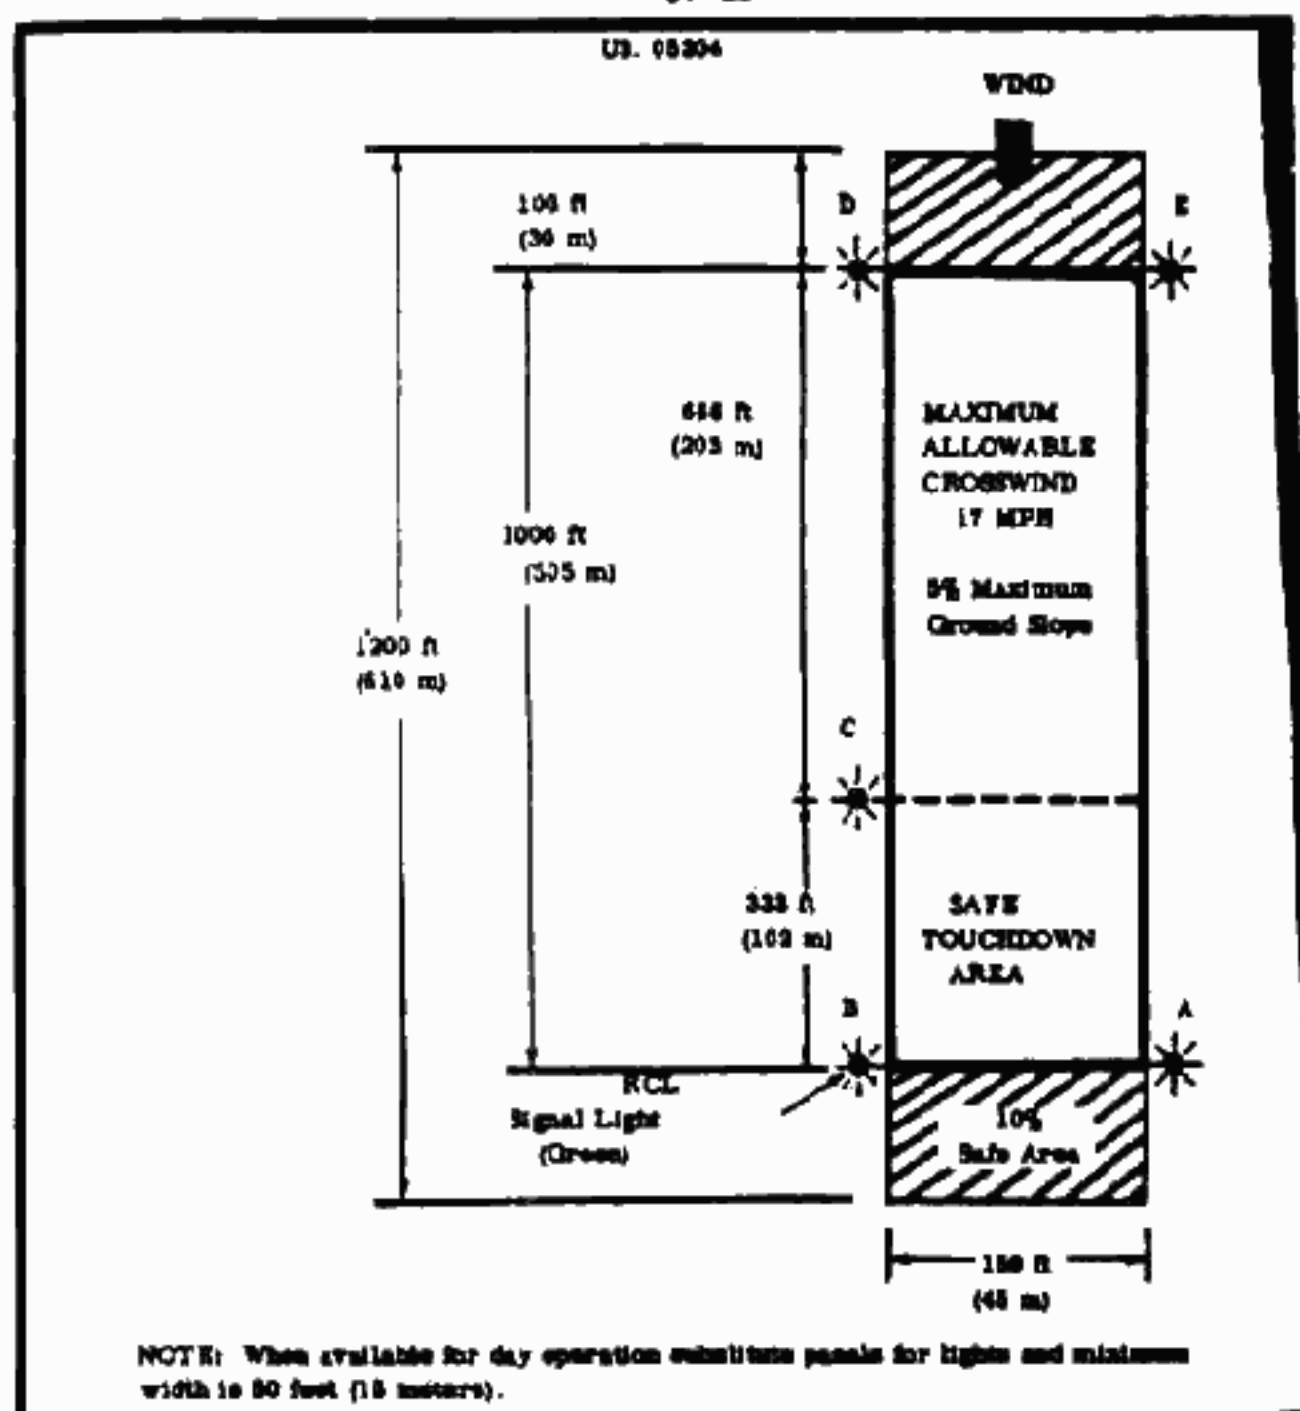

Figure 12. Landing zone (and) light aircraft night operations).
(2) Weather. Prevailing weather in the landing area should be favorable. In particular, there must be a determination of wind direction and velocity, and of conditions restricting visibility such as ground fog, haze, or low-hanging cloud formations.
(3) Size. The required size of LZ's varies according to the aircraft used. Safe operations require the following minimum dimensions (Figures 12 and 13).